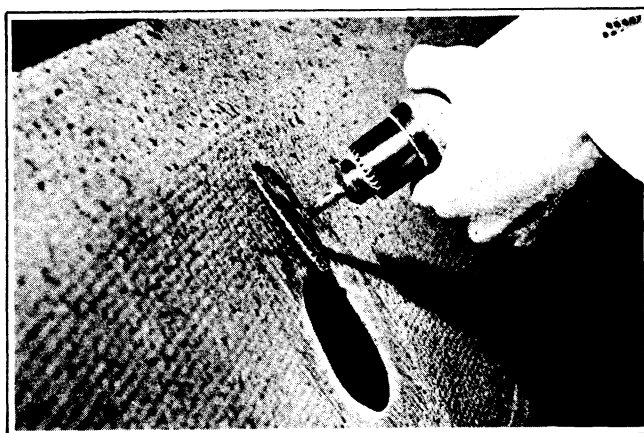

Figure 2-73. Rough Sanding Inside Surface
3. Rough sand the inside surface, using 80-grit dry sandpaper, feathering back about two inches all around the hole in the area the patch will touch. See Figure 2-73.